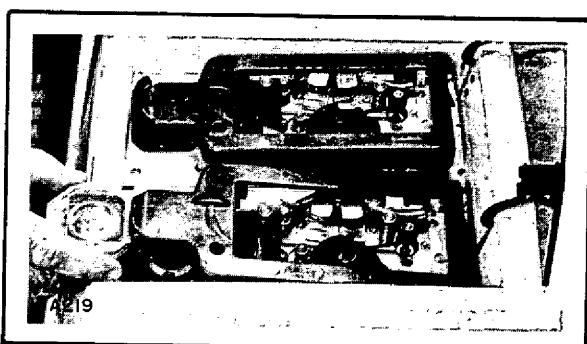

Fig. 3-8. Remove Tape Cartridge
- c. Lift the loader and remove the tape cartridge. (See figure 3-8.)